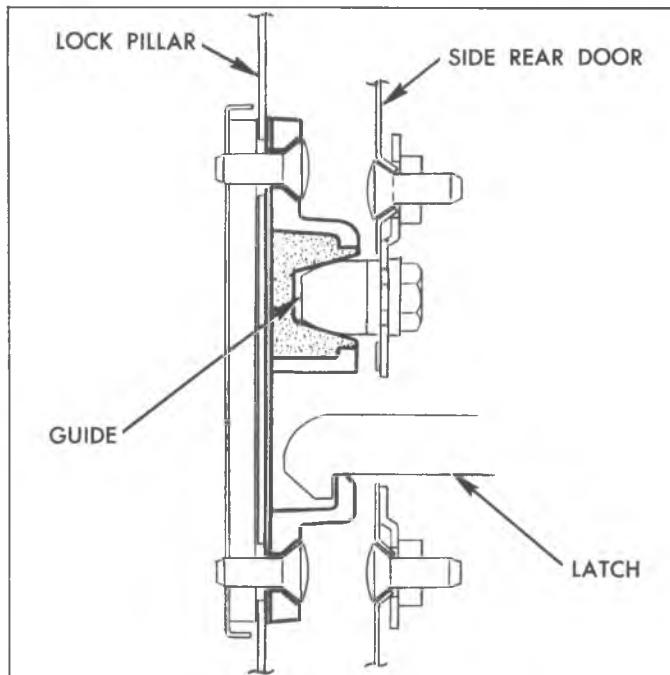

Fig. 28G—Front Striker Adjustment
2. Visually align latch to striker relationship and adjust if necessary. See figure 28G.